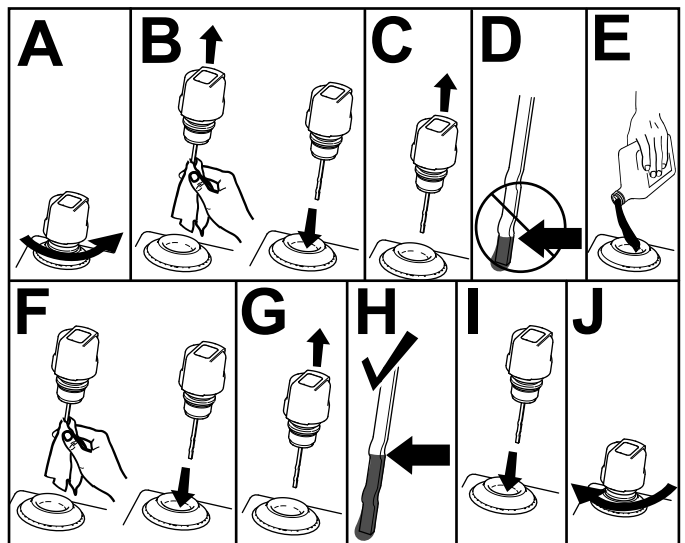

Figure 50
5. Check the hydraulic fluid as shown in Figure 50.